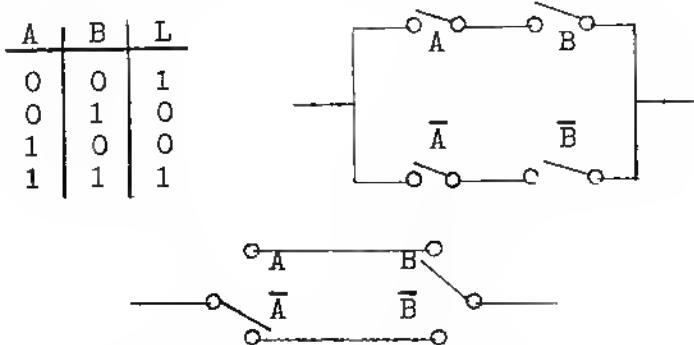

Figure 9: Truth Table and circuit diagram for the coin matcher.
The first step in the design is to construct a truth table (sometimes called a closure table) for the system. We require that when  $A$  and  $B$  are both on the light is lit, when they are both off the light is lit, but when they have different settings (one on, the other off) the light is off. The truth table we would like to implement is clearly the one shown in Figure 9. This is constructed by first listing the four possible combinations for two switch settings, that is 00, 01, 10, and 11. For each of these switch settings the desired value of  $L$  is listed, completing the truth table. It is seen that when the switches "match" then  $L=1$ , otherwise it is 0.
For the first step above and the truth table of Figure 9, we obtain the products  $\bar{A} \cdot \bar{B}$  and  $A \cdot B$  from the first row and the last row, respectively. Step two then gives the equation,
which is the equation for the circuit. It is important for you to verify, by substituting in the various values of  $A$  and  $B$  given in Figure 9, that this equation does not in fact give the desired values of  $L$ .
The final step in the design is to construct a circuit which is equivalent to the equation (4). An examination of this equation indicates that we need two parallel branches, one containing  $\bar{A}$  in the series with  $\bar{B}$ , the other containing  $A$  series with  $B$ . This circuit is shown in Figure 9. The battery and the light have been omitted for simplicity. Clearly the circuit could be constructed with two SPDT switches.